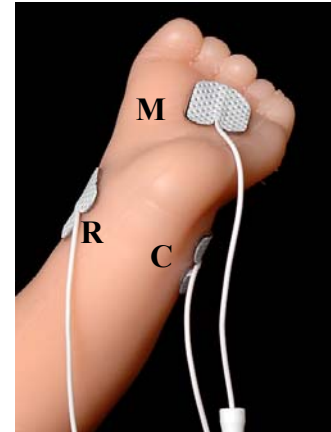

Figure 4-5 Skin electrode placement on premature infants
1. Place the electrodes according to Table 4-2 and Figure 4-5. The distance in between each electrode shall be at least 7 mm.